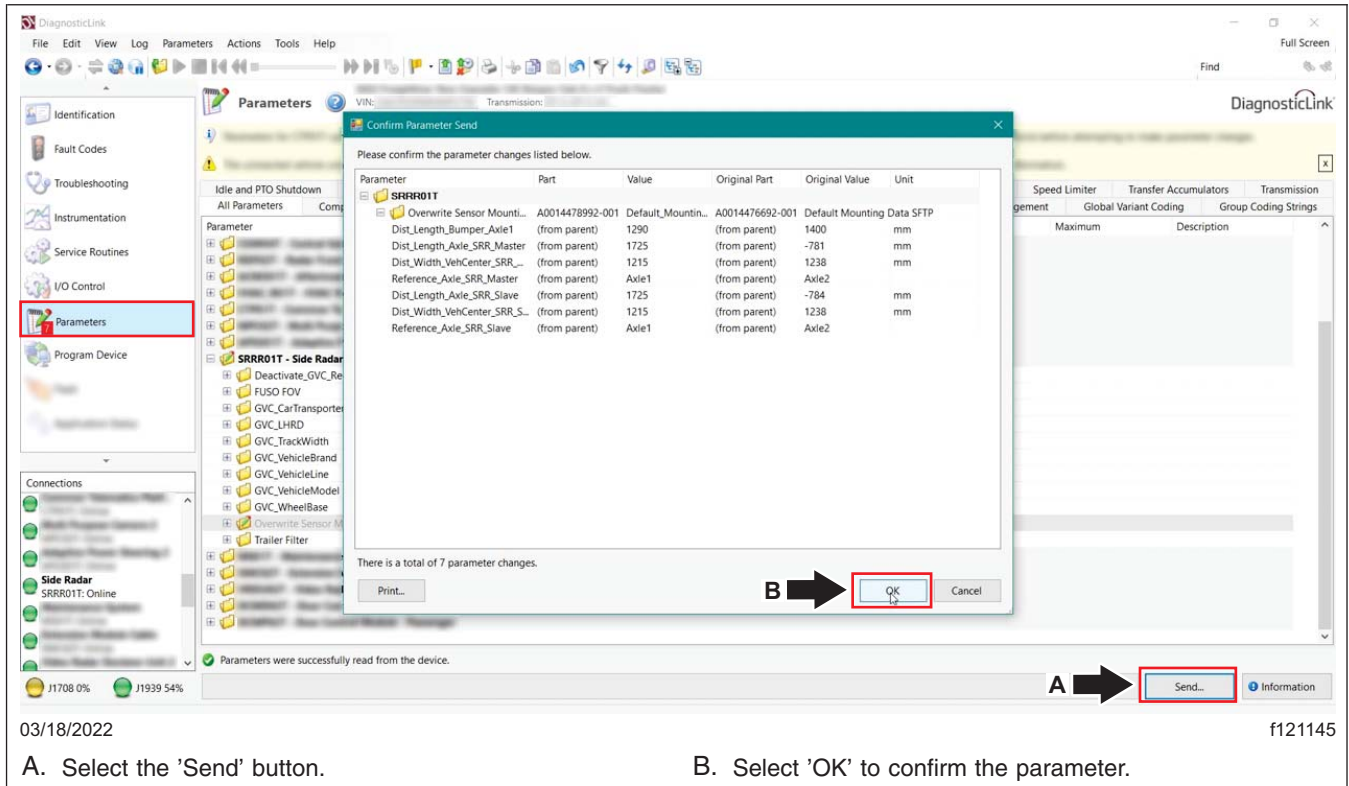

Fig. 4, Selecting the Send Button and Confirming Parameter Send
- Select the 'Send' button to write the parameter changes to the SRRR01T ECU in the vehicle. A window will open asking to confirm the parameter change. Select 'OK.' See Fig. 4.